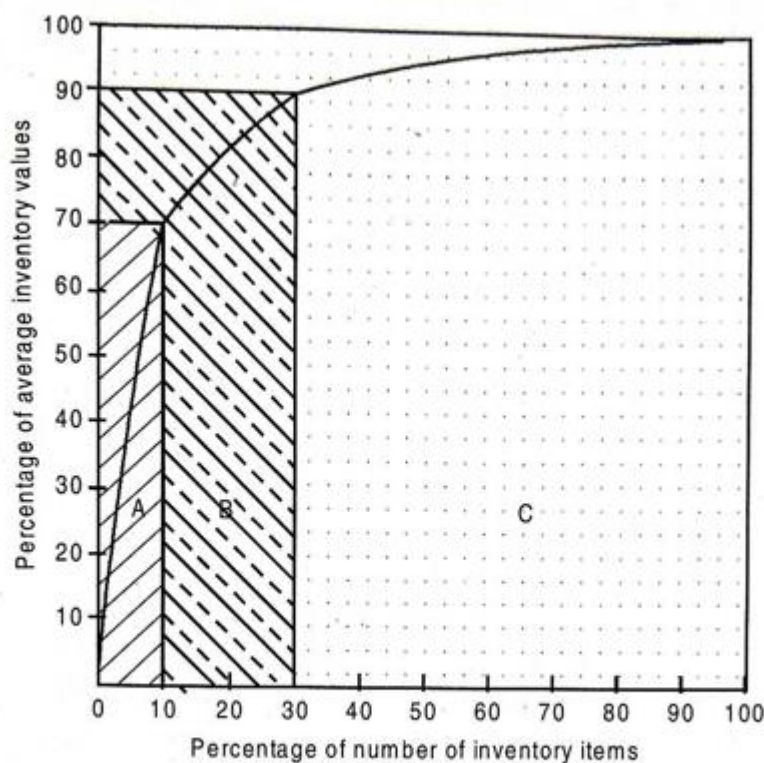

Fig. 2.10 : Illustration of ABC analysis
5. A curve as shown in Figure 2.10 is plotted, and points on the curve at which there are perceptible sudden changes of slopes are identified. In the absence of such sharp points, cut-off points corresponding to the top 10 per cent and the next 20 per cent or so are marked as a general indicator of A, B and C type of materials.